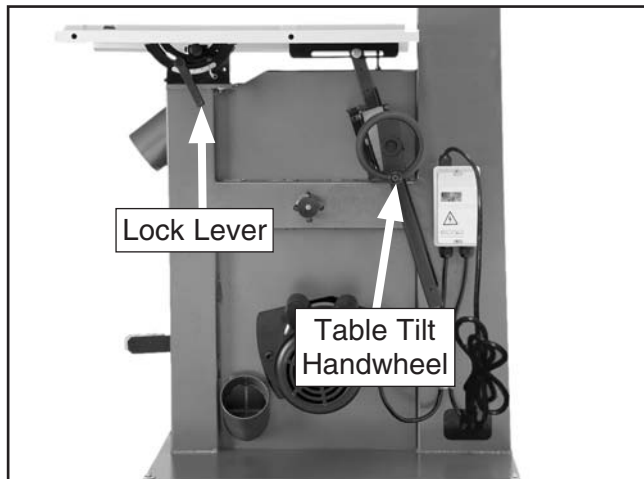

Figure 71. G0514X2, G0514X2B, and G0514X3 table tilt controls.
2. Loosen the table tilt lock lever shown in **Figure 71**.
3. To tilt the table to the right, turn the table tilt handwheel clockwise (**Figure 71**).
5. Secure the table tilt lock lever (**Figure 71**).